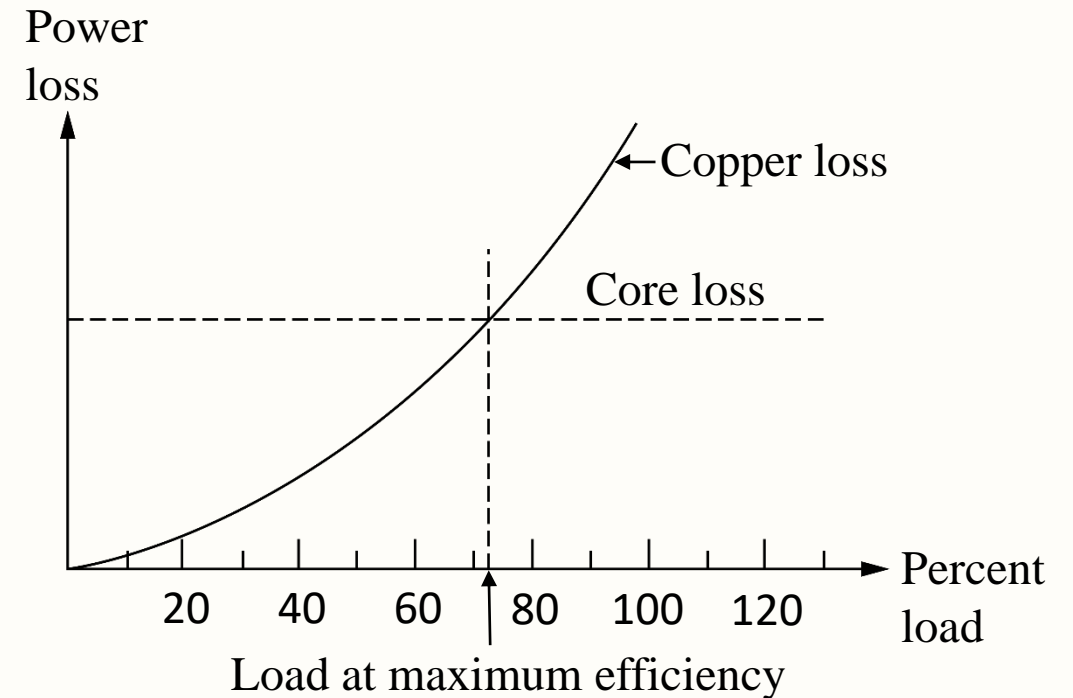

Fig. 36. Losses in a transformer.
i.e., the maximum efficiency occurs at a current level, at which **the copper losses are equal to the core losses**, as depicted in Fig. 36.